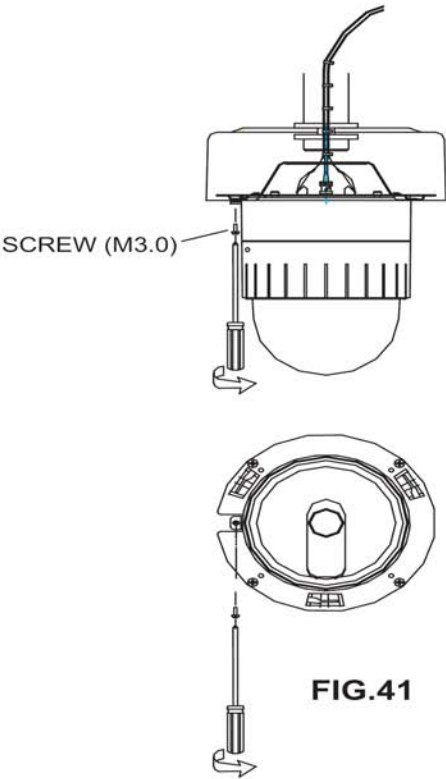

FIG.41
- I-6. Screw up Lock Holders with screws. (FIG. 41)